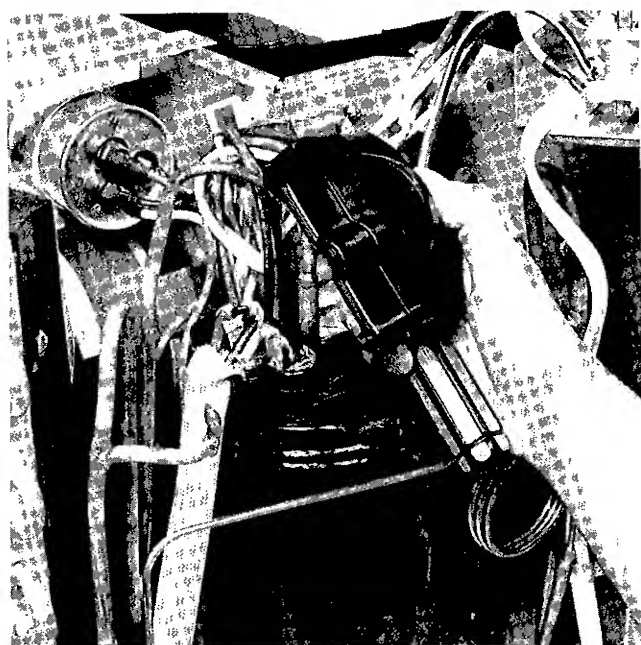

Fig 21 — Removing Compressor Terminal Cover
- a Remove compressor terminal cover See Fig 21